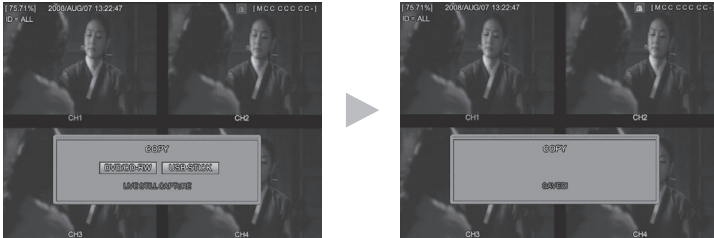

Figure 3
- ③ Select a desired list to be backed up and the image is displayed. Select the backup device - either USB memory stick or CD-RW. When backup is completed, Figure 3 is displayed.